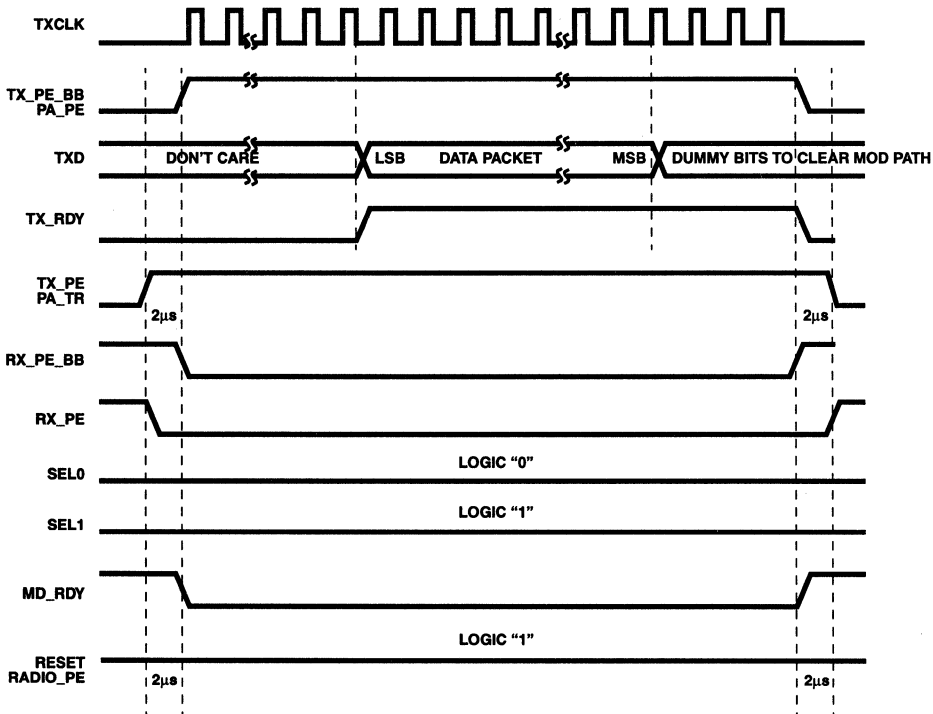

FIGURE 4. TRANSMIT TIMING DIAGRAM
To initiate the transmit operation the MAC generates TX_PE. The Preamble and Header are then generated by the PHY. Finally, when cued, the MAC delivers the data packet to the PHY for transmission. The transmit data digital interface transfers the data that needs to be transmitted serially to the PHY. The data is modulated and transmitted as soon as it is received from the MAC. The serial digital data is input to the PHY through TXD using the falling edge of TXCLK to clock it in the PHY. TXCLK is an output from the PHY. A timing diagram of the transmit signal sequence is shown on Figure 4.
The MAC initiates the transmit sequence by asserting TX_PE. Then TX_PE_BB envelopes the transmit data packet on TXD. The PHY responds by generating TXCLK to input the serial data on TXD. TXCLK will run until TX_PE_BB goes back to its inactive state indicating the end of the data packet. In addition Figure 4 illustrates the state of the PHY receive signals while transmitting as well as, the power enable, reset, and filter select proper signal states.
During this mode the PHY will immediately start transmitting the preamble and header as internally generated. Data available on TXD upon assertion of TX_PE_BB would be ignored. When the internally generated preamble and header are finished the PHY asserts TX_RDY. This signals the MAC to begin sending the data packet. TX_RDY assertion timing is programmable via Configuration Register (CR) 1. The timing diagram of this TX scenario, where the preamble and header are generated internal to the PHY, is illustrated on Figure 4.
One other signal that can be used to assist MAC transmit decisions as part of the TX interface is the Clear Channel Assessment (CCA) signal which is an output from the PHY. The CCA provides the indication that the channel is clear of energy and the transmission will not be subject to collisions. CCA can be monitored by the MAC to assist in deciding when to initiate transmissions. The CCA indication can be bypassed or ignored by the MAC without impacting any of the physical layer operations. The state of the CCA does not effect the transmit operation of the PHY. TX_PE and TX_PE_BB will always initiate the transmit state independent of the state of CCA. The CCA timing is not shown in the timing diagram of Figure 4 since it is an optional signal and does not influence the PHY transmit operations.